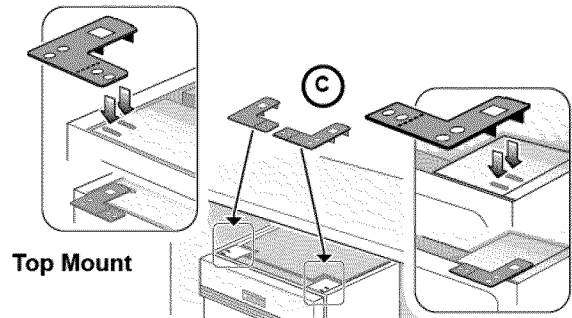

Figure 17
**Top Mount** is used for countertops made of wood or other materials that can be easily drilled. Orient the mounting brackets as shown in **Figure 17**, and position the two small tabs on the mounting brackets over the two slots on the dishwasher's front corners. Push the mounting brackets down firmly to insert the tabs into the slots.